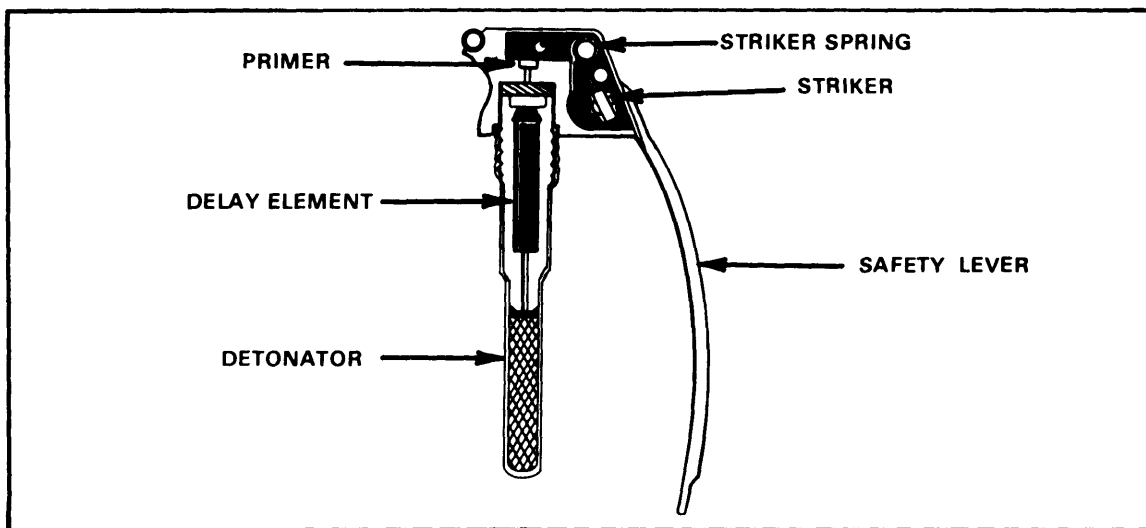

Figure 1-3. M204A2 fuze.
(1) M204A1 and M204A2 fuzes (Figure 1-3). These fuzes are used with the M26 and M26A1 fragmentation grenades, which have been reclassified as the M61 under the product improvement program that added an attached safety clip feature. Each fuze functions as described in paragraph 1-3. The delay element is a powder train requiring 4 to 5 seconds to burn to the detonator. The detonator sets off the filler.